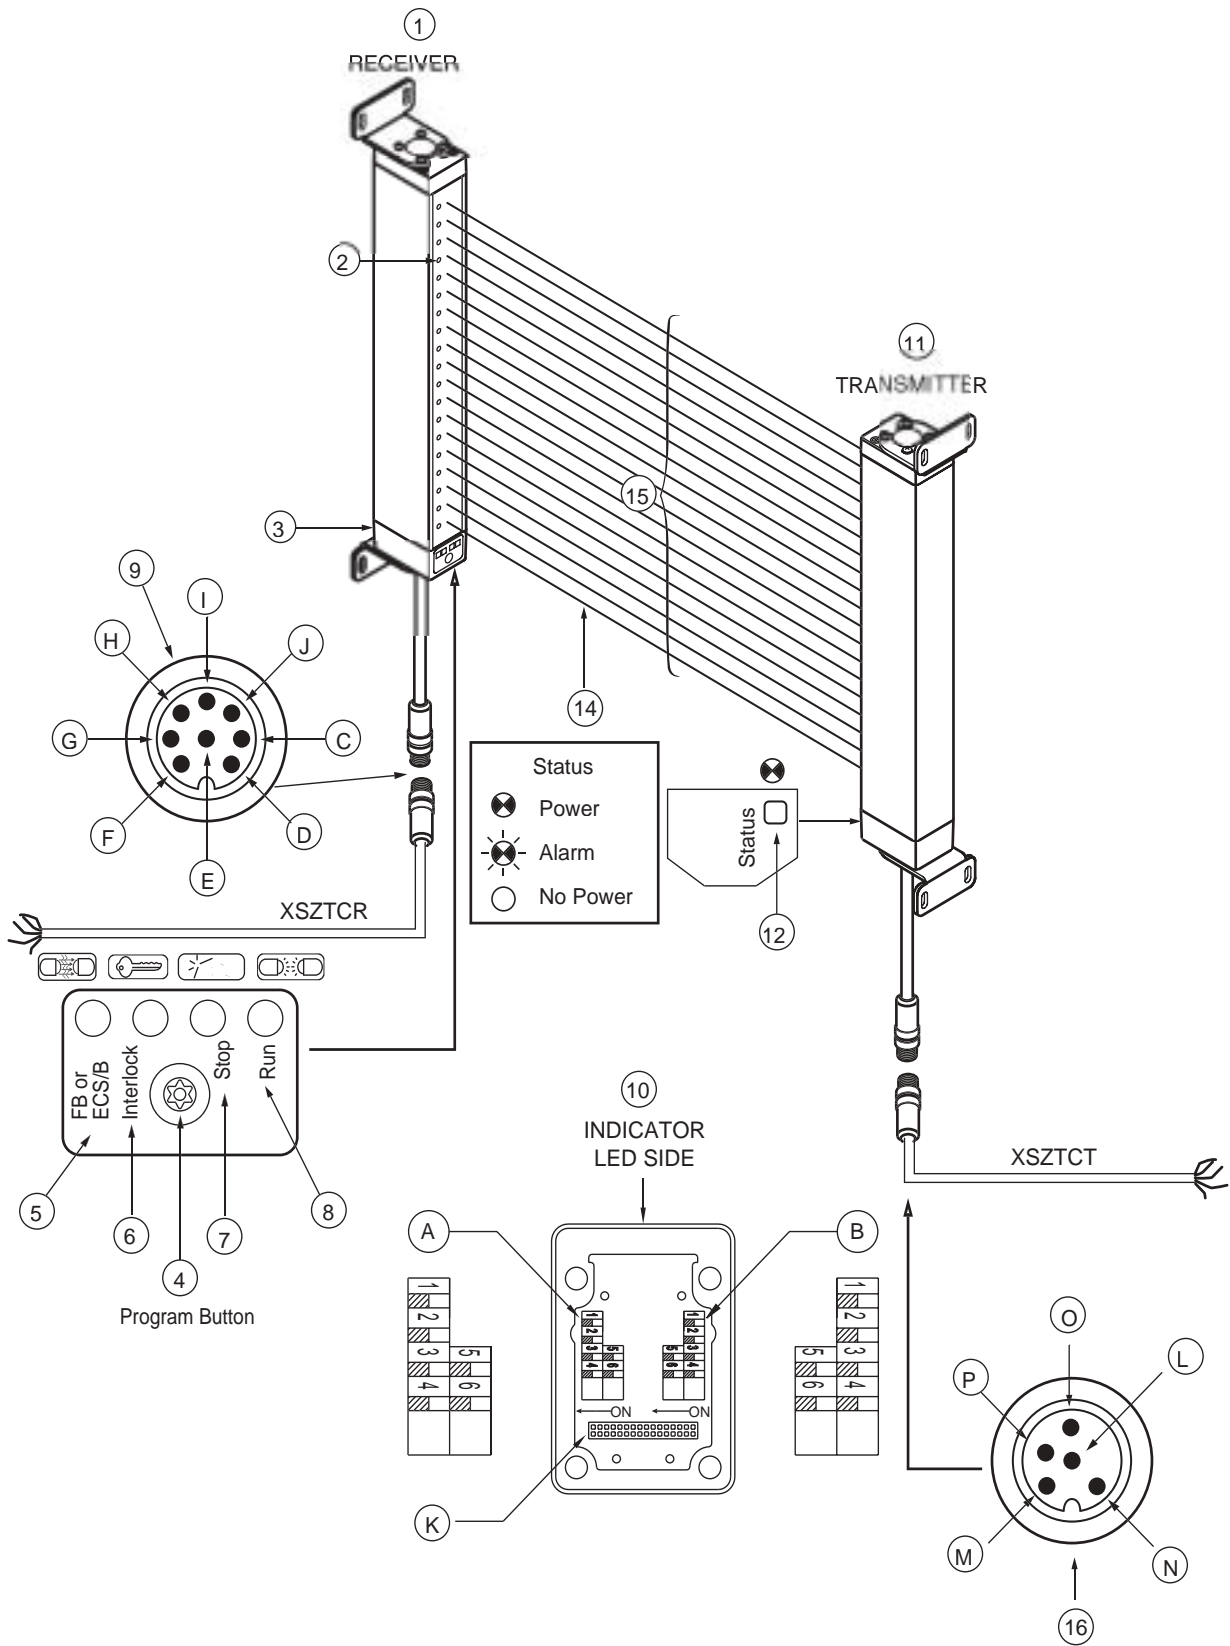

Figure 10: System Drawing
Refer to Figure 10 on page 23 for the location of the components and indicators listed in Table 4.
The operating mode is selected by setting positions 1 and 2 of Switch Banks A and B, located inside the receiver end cap. Refer to Table 5. **Any mismatch between the settings of Switch Banks A and B will result in an alarm condition.** To access the switch banks, remove the four captive screws which secure the largest receiver end cap. Set these switches before mounting the receiver. See item 3 in Figure 10 on page 23.